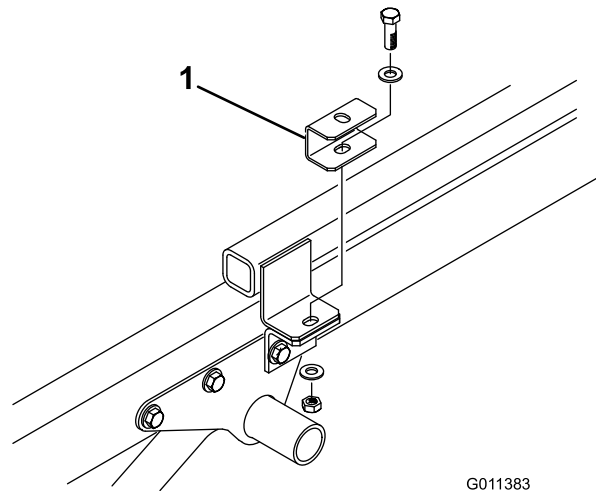

Figure 7
4. Secure a spacer mount to top of each hitch frame tab with the cap screw, 2 flat washers, and locknut previously removed (Figure 7).
5. Position the machine onto the vehicle frame, aligning the holes in the rear mounting brackets with the holes in each side of the frame (Figure 7).